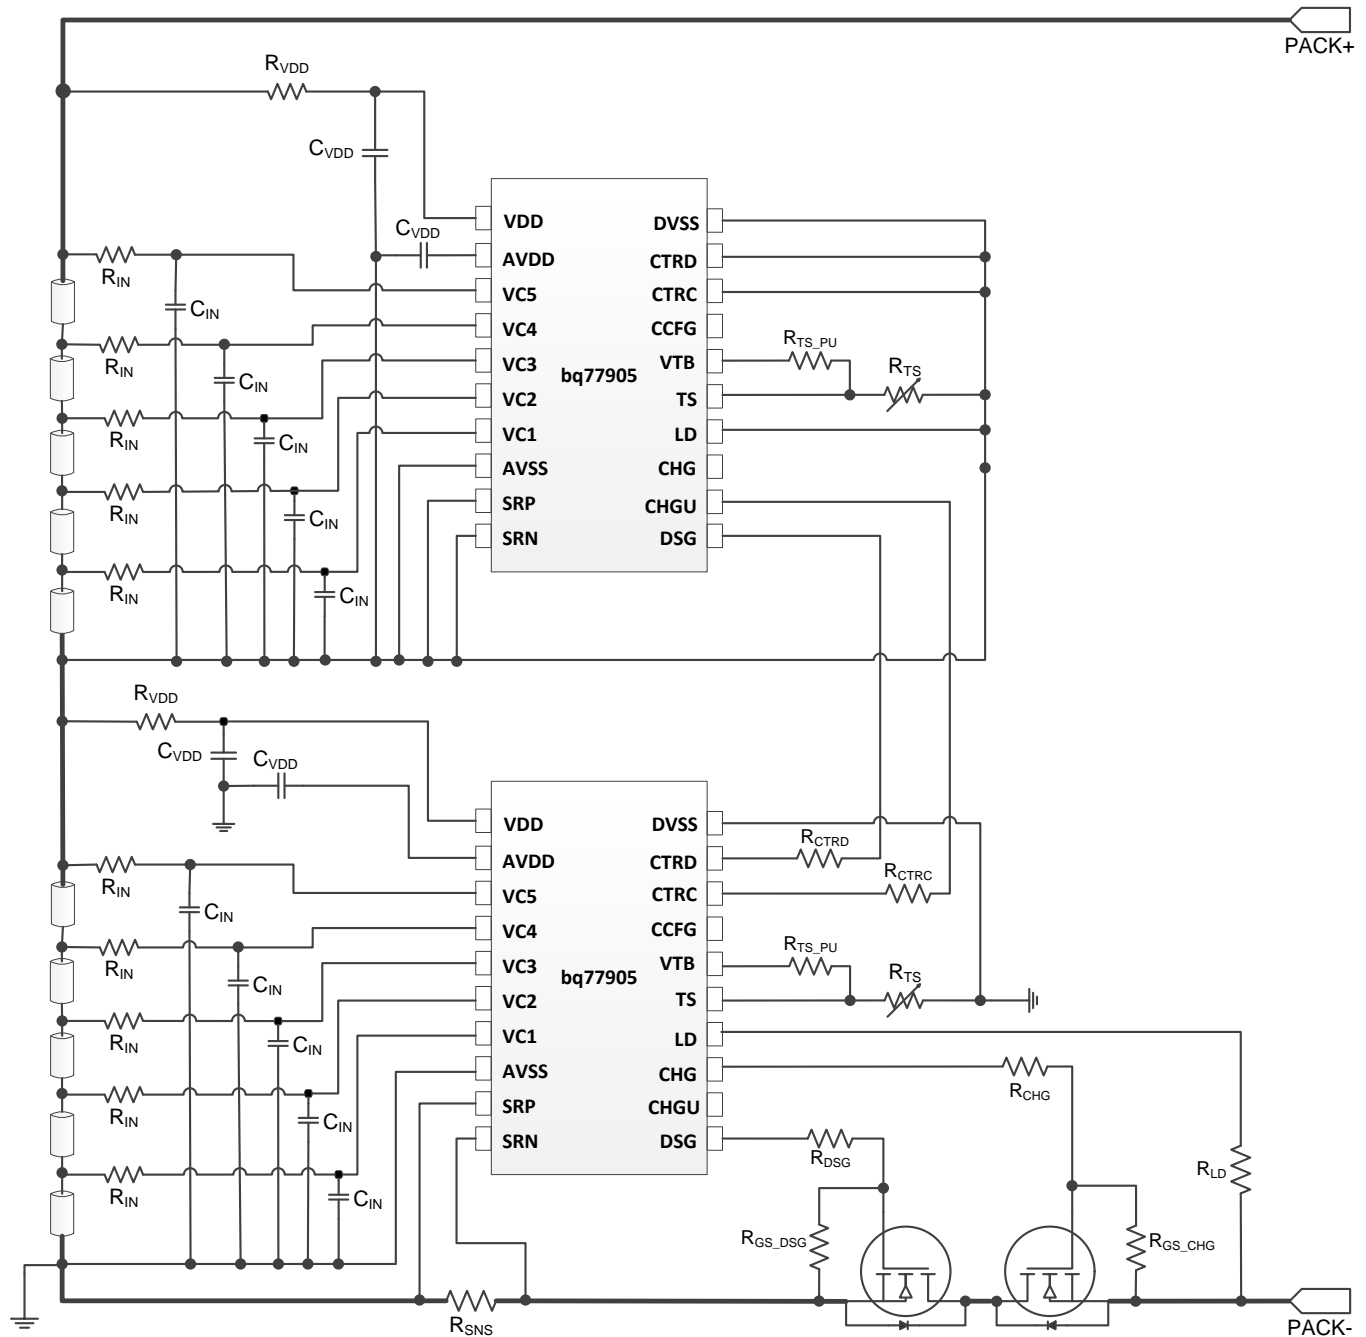
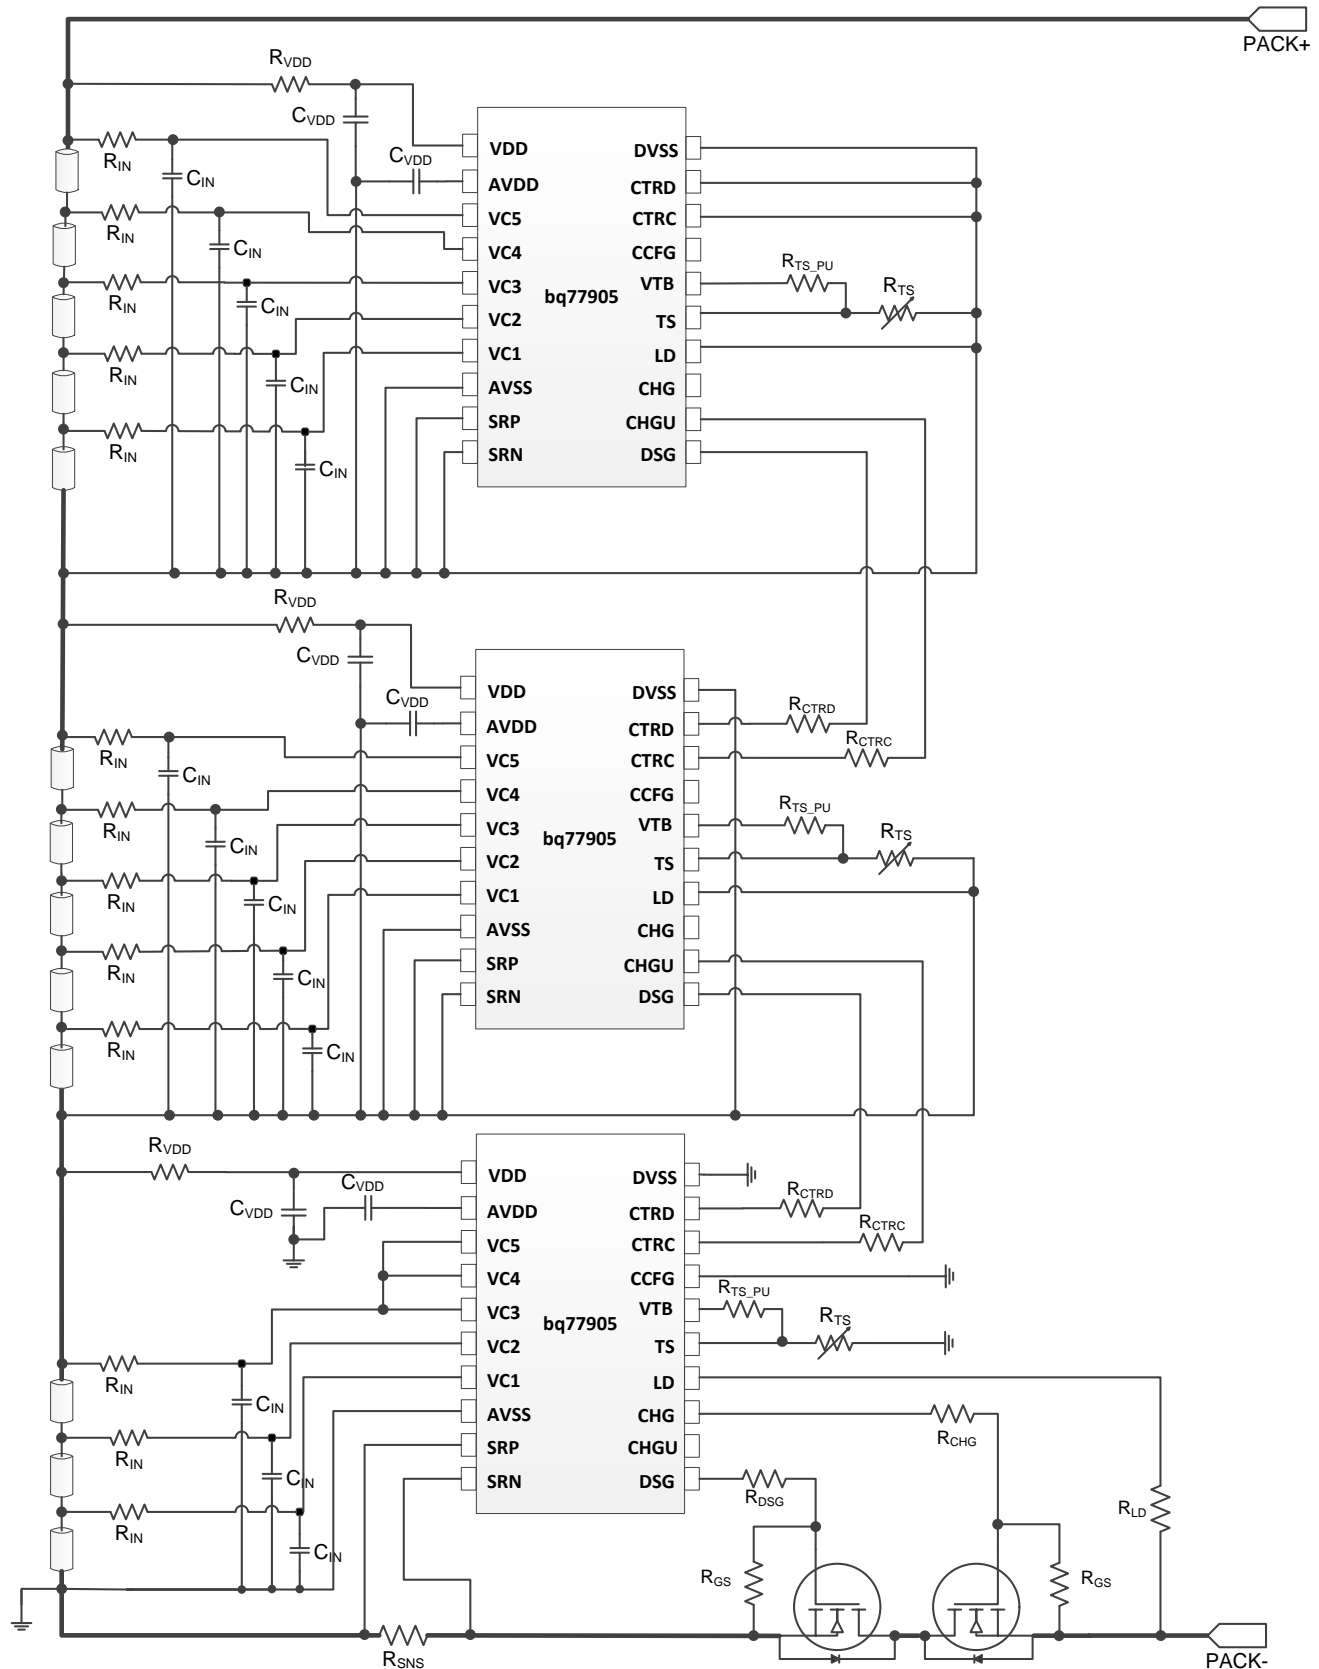
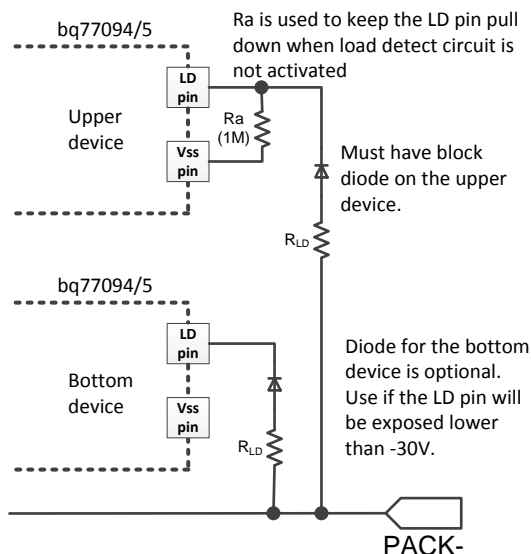

图 16. 10S Pack Using Two bq77905 Devices
图 17. 13S Pack Using Three bq77905 Devices
图 24. Simplified Circuit: LD Connection on Upper Device When Using for UV Fault Recovery
- If load removal is not used for UV recovery, connect the upper device LD pin to its AVSS pin, as shown in 图 16 and 图 17. Otherwise, refer to 图 24 for proper LD connection.
To ensure load removal is detected properly during a UV fault, TI recommends to use 3.3 M Ω for R_{GS_CHG} (instead of a typical of 1 M Ω when load removal is NOT required for UV recovery). R_{CHG} can stay in 1 M Ω as recommended when using CHG FET protection components. The CHG FET rise time impact is minimized as described in the Protecting CHG FET section. On a stacked configuration, connect the LD pin, as shown in 图 24 if load removal is used for a UV fault recovery. If load detection is not required for a UV fault recovery, a larger value of R_{GS_CHG} can be used (that is, 10 M Ω) and the LD pin on the upper devices can be left floating.